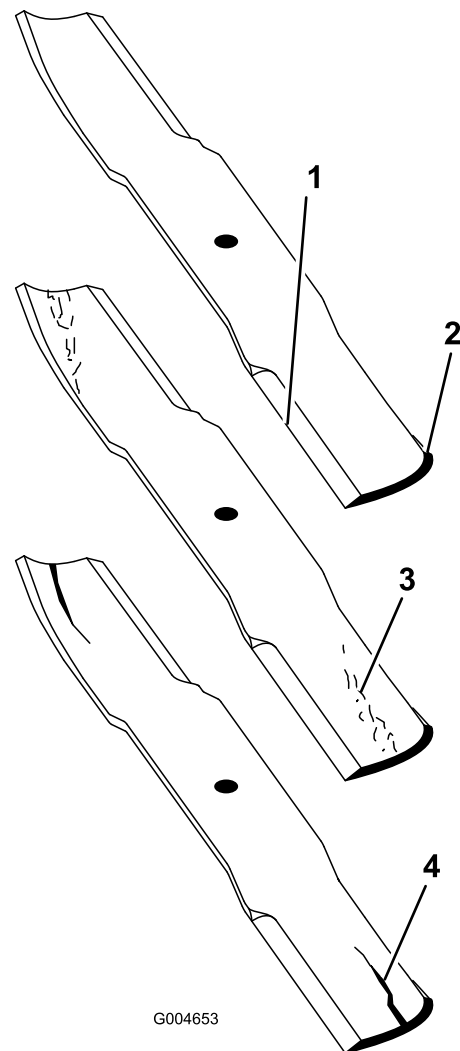

Figure 99
2. Examine the cutting ends of the blade carefully, especially where the flat and curved parts of the blade meet (Figure 99).
Note: Because sand and abrasive material can wear away the metal that connects the flat and curved parts of the blade, check the blade before using the mower. If you notice wear (Figure 99), replace the blade.